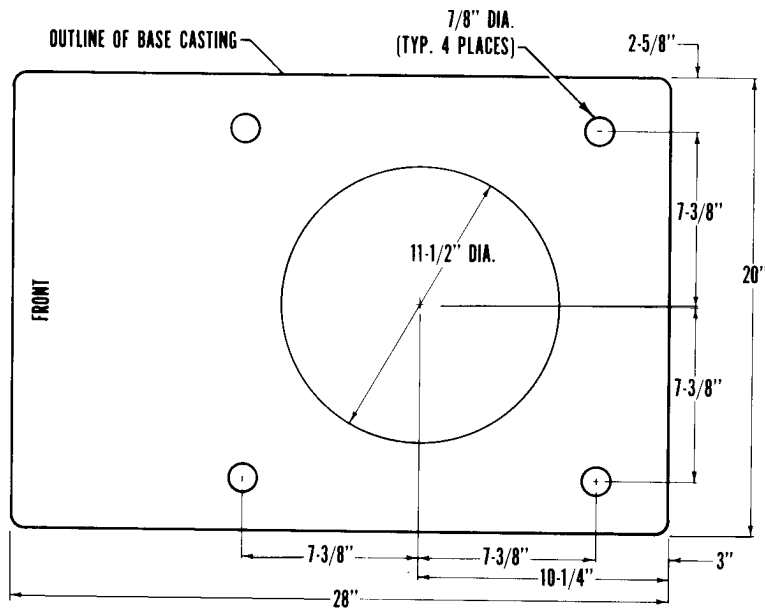

Figure C-2.
1. Locate and drill the four mounting holes and the center hole for the hoses and remote control cables (Figure C-2). Make certain that the holes are located to properly orient the front of the crane base toward the front of the truck.